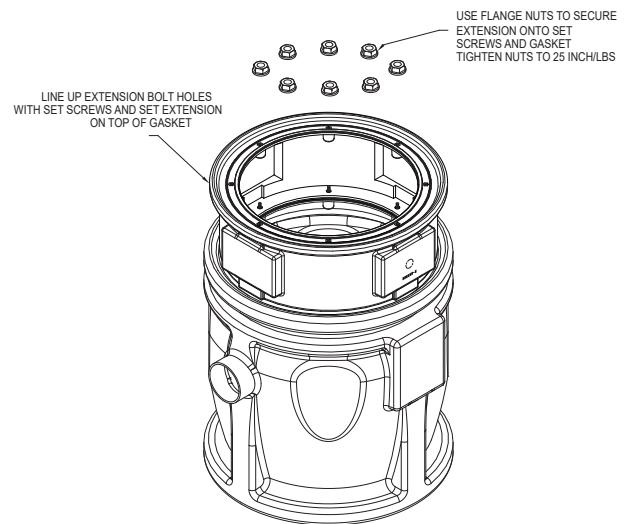

FIGURE 4
6. Line up extension bolt holes with set screws and set extension on top of gasket. Use flange nuts to secure extension onto set screws and gasket. Tighten flange nuts to 25 in/lbs.(Figure 4)